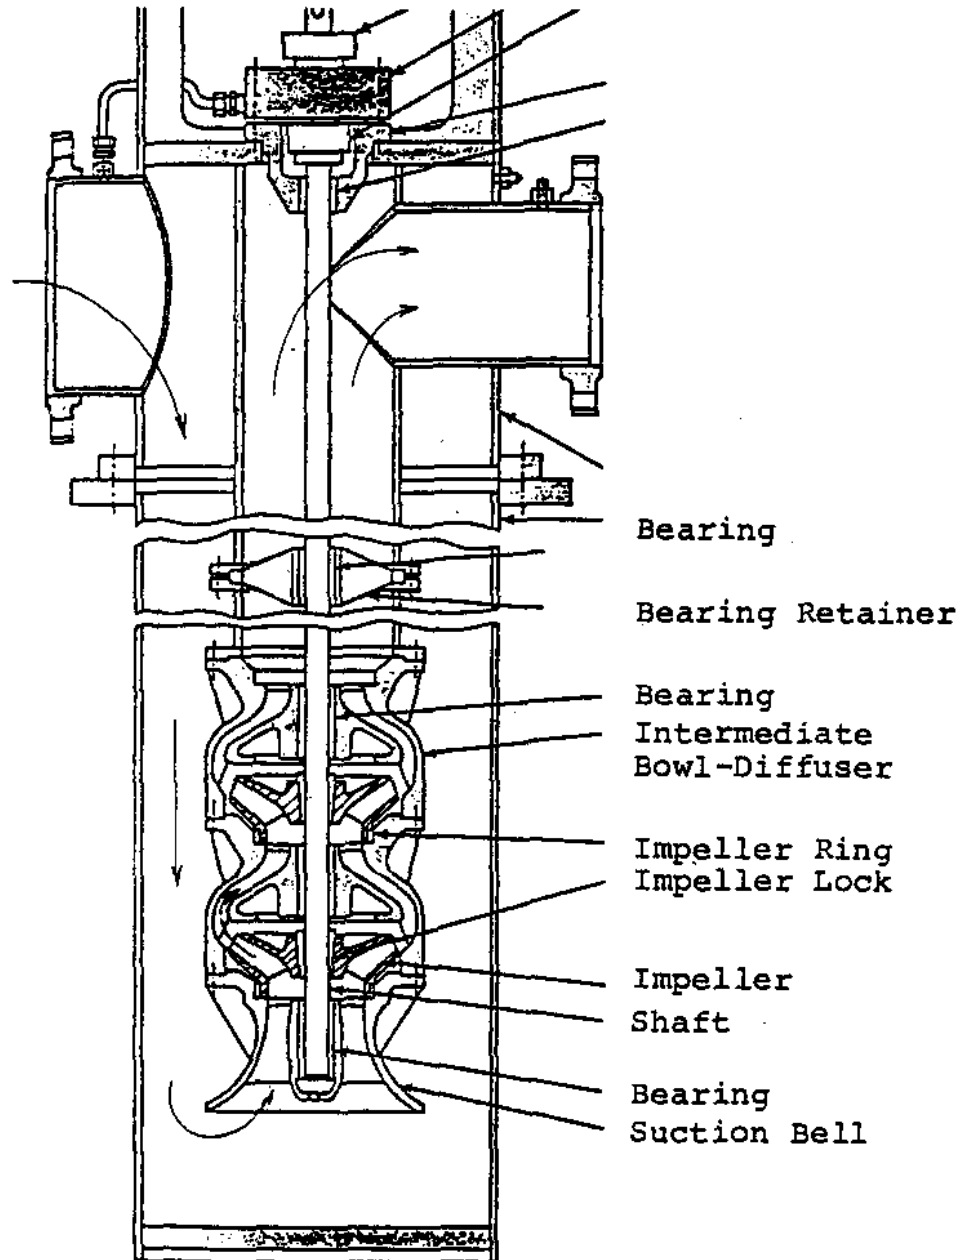

Figure 4
- (b) multi stage (two or more stages), Figure 4.